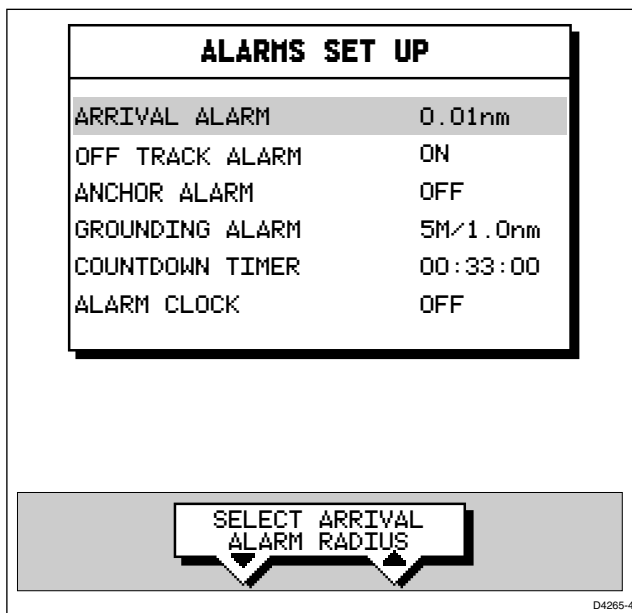

Figure 4-2: Alarms Set Up List
1. Press the **ALARMS** key. The Alarms Set Up menu is displayed, showing the current settings (see *Figure 4-2*).